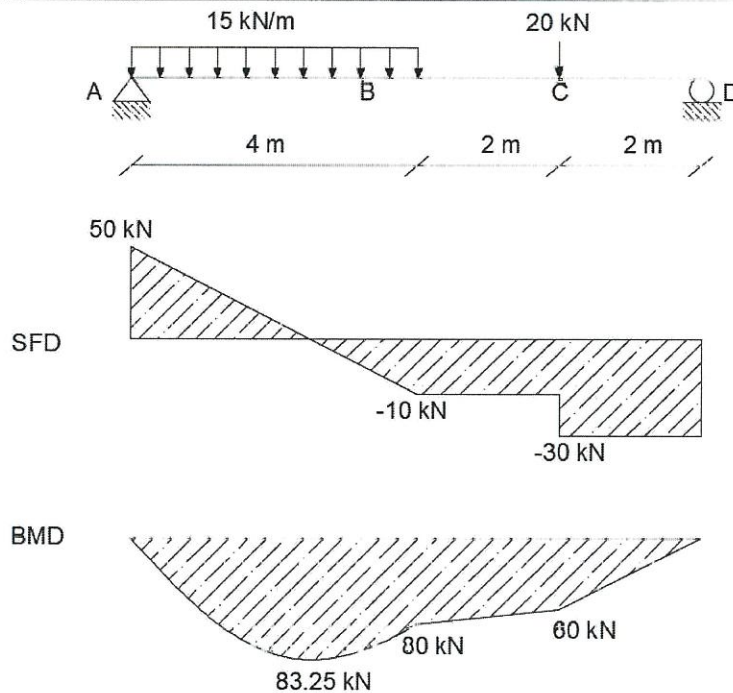

**Figure Q9**
**Q9** Based on the **Figure Q9**, identify the maximum tensile bending stress for the T-shape beam.